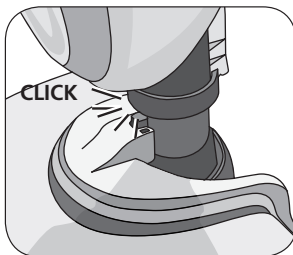
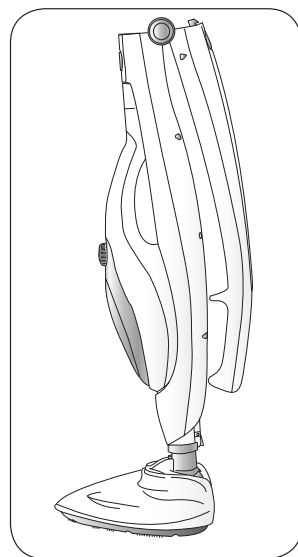

Fig. 11
Fig. 12
Remove the cloth. Tilt the appliance forward to close the rod on the steam head. The correct insertion is done with a "click" (Fig 11). Wind the power cable on the two hooks. Press the handle release button (J) and close the appliance (Fig. 12).
For the appliance to be stable in a vertical position it is necessary to lock the rod on the steam head (Fig 11).